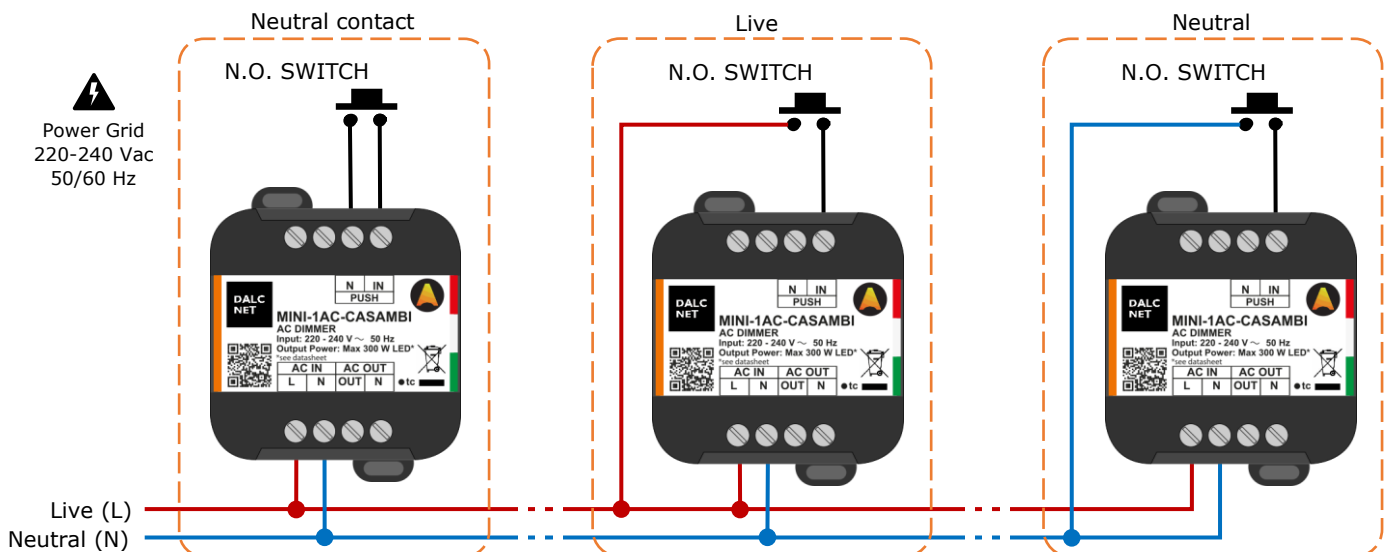

Figure 3: Local Command wiring diagram
2. **Local control wiring:** connect the N.O. button to the "IN" and "N" terminals of the "PUSH" input respecting one of the wirings shown in the connection diagram in Figure 3.
3. **Power supply wiring:** Connect the 230 Vac @ 50 Hz mains power supply to the "AC IN" terminals respecting the Live (L) and Neutral (N) convention to terminals "L" and "N" respectively.
Figure 3 shows three different wiring possibilities for the local control: N.O. switch connected as a Neutral (N) contact, connected to Live (L) or Neutral (N).